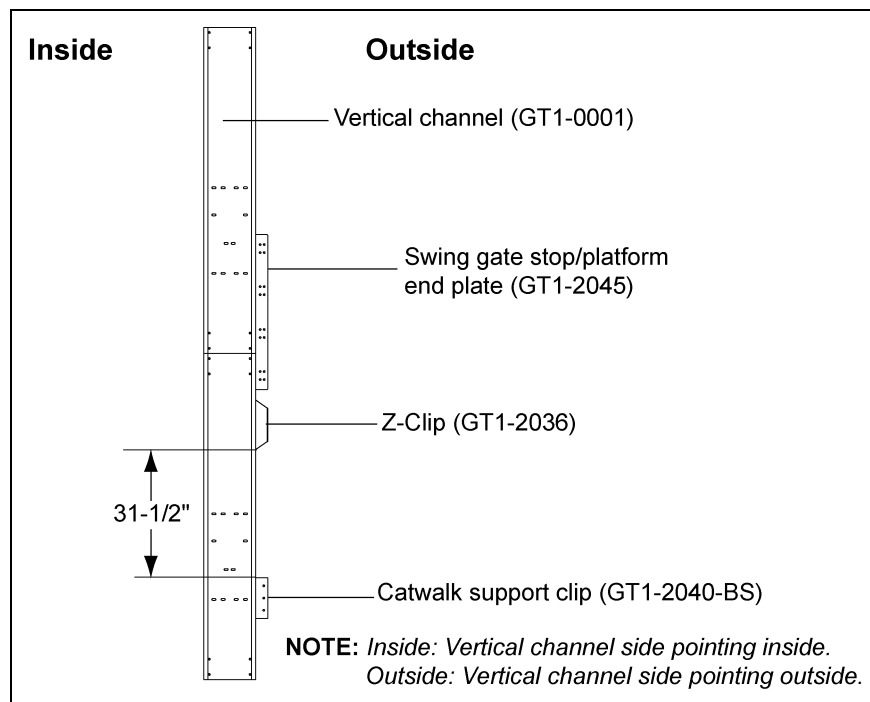
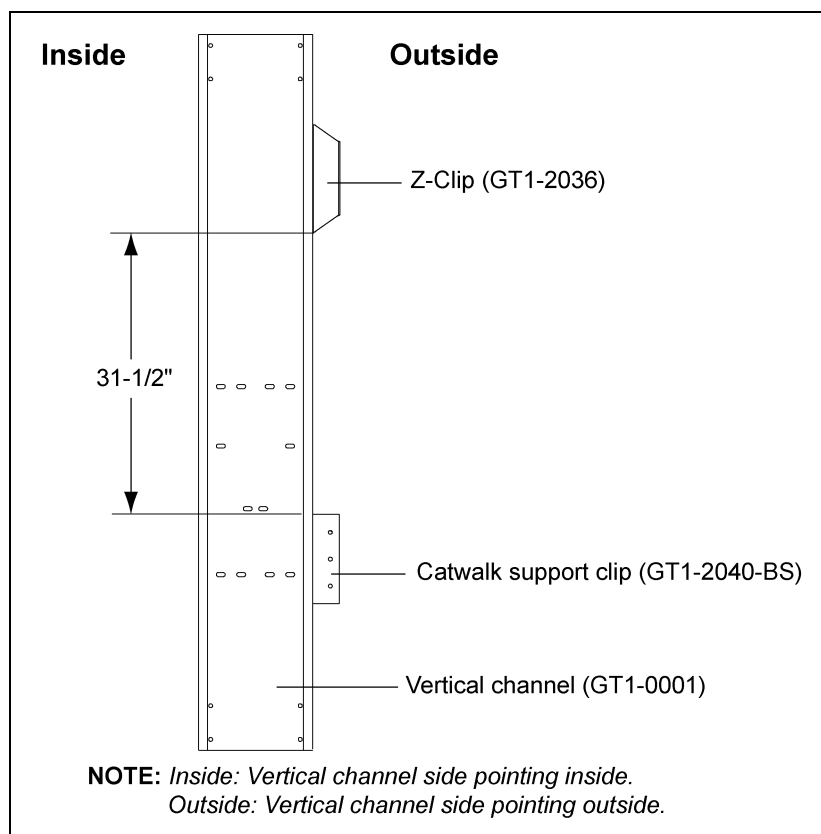

Figure 6H
Figure 6J
2. The minimum distance between the Z-clip and support clip is 31-1/2". *(See Figure 6H below and Figure 6J on Page 52.)*